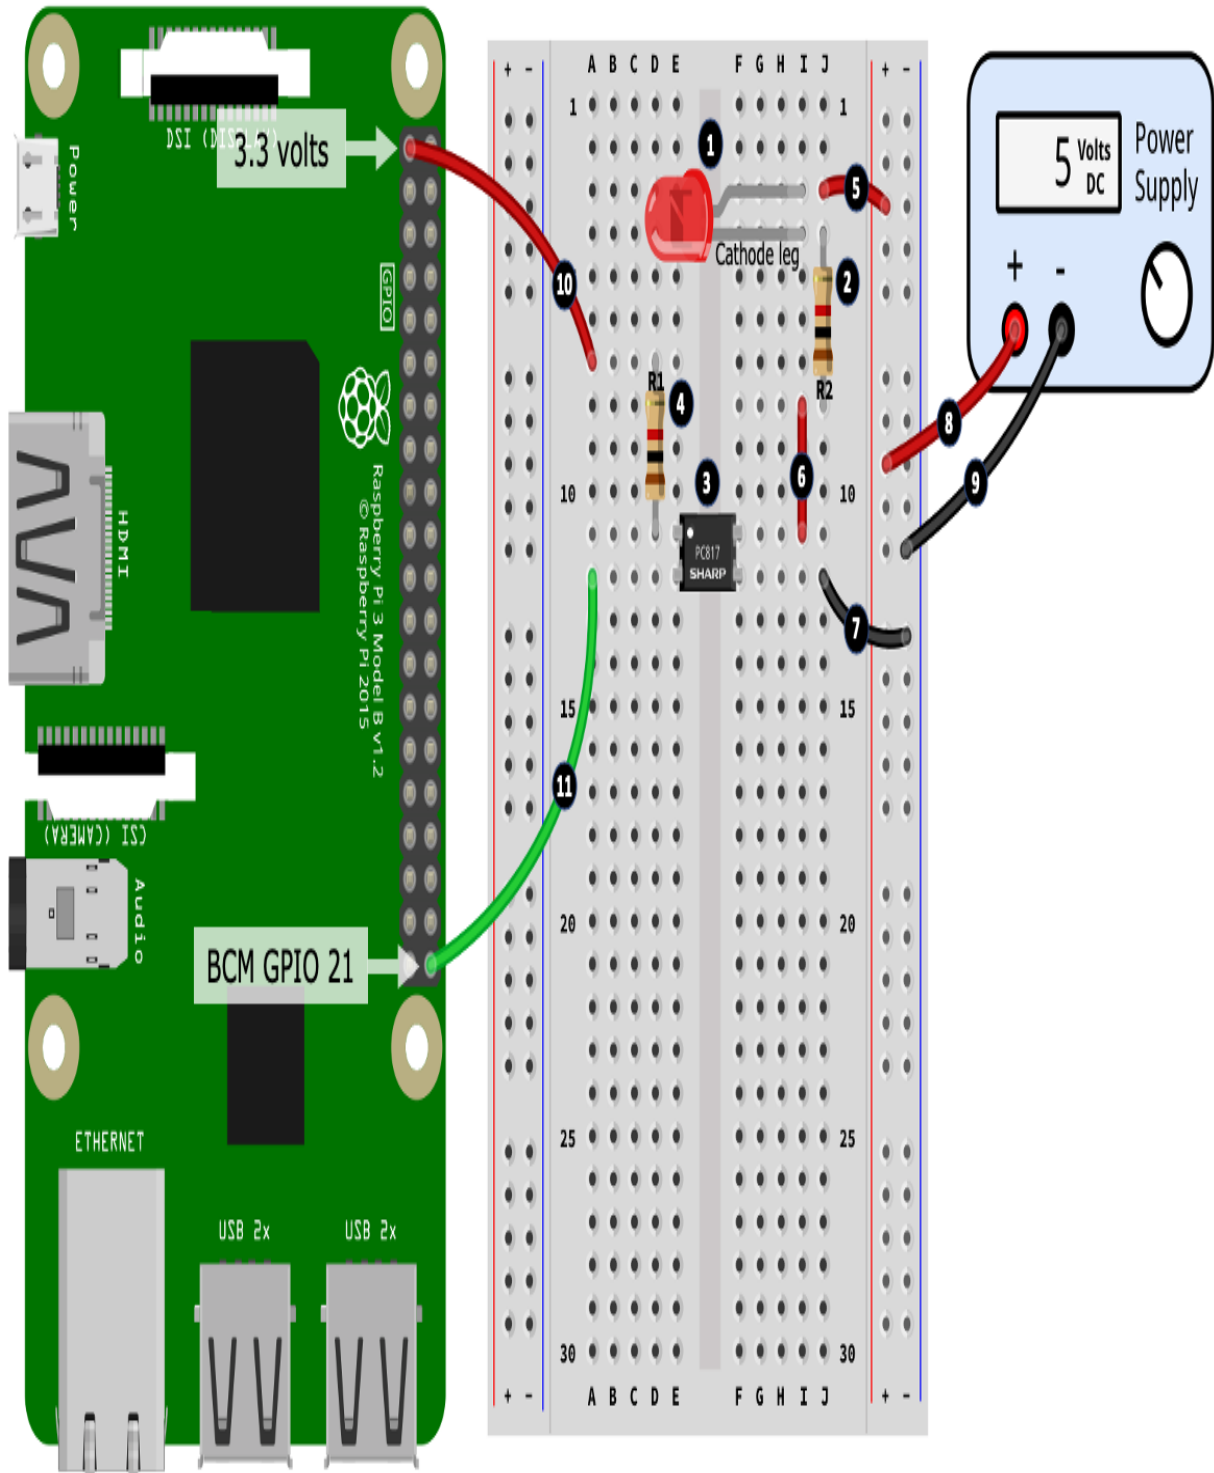

Figure 7.7 – Optocoupler circuit
The step numbers here match the numbered black circles in *Figure 7.7*:
*In Figure 7.7, you could connect the wires at steps 8 and 9 (which go to the External Power Supply) directly to your Raspberry Pi's +5-volt pin and a GND pin. We're only using a small amount of current for the red LED, however, for higher current loads, you must use an external power supply. The +5 volt pin on your Raspberry Pi is connected directly to the power supply you are using to power your Raspberry Pi. Using this power supply to power your circuits effectively robs current available to your Raspberry Pi. Take too much, and your Raspberry Pi will reset! **Please note (this is important) that the caveat of this action is that you lose the electrical isolation offered by the optocoupler because you will have electrically connected the input and output sides of the optocoupler together (remember, the input and output sides are not electrically inside the optocoupler because control is achieved by light).***
- At line (1), GPIO 21 is low and the internal LED on the *input* side is on. The phototransistor on the *output* side detects this light and is activated, allowing current to flow between the output side's collector (pin 4) and emitter (pin 3), and hence our red LED illuminates.
- The input side of the PC817 circuit is wired as *active low*—that's why at line (1), GPIO 21 is made low to turn the circuit on, and at line (2), GPIO 21 is set to high to turn the circuit off. Alternative wiring would be *active high*. If you want to experiment and change the circuit to be active-high, you would attach the wire from *step 10* in *Figure 7.7* to a GND pin (rather than a 3.3-volt pin), and reverse the  `pigpio.LOW` and  `pigpio.HIGH` statements in the code.